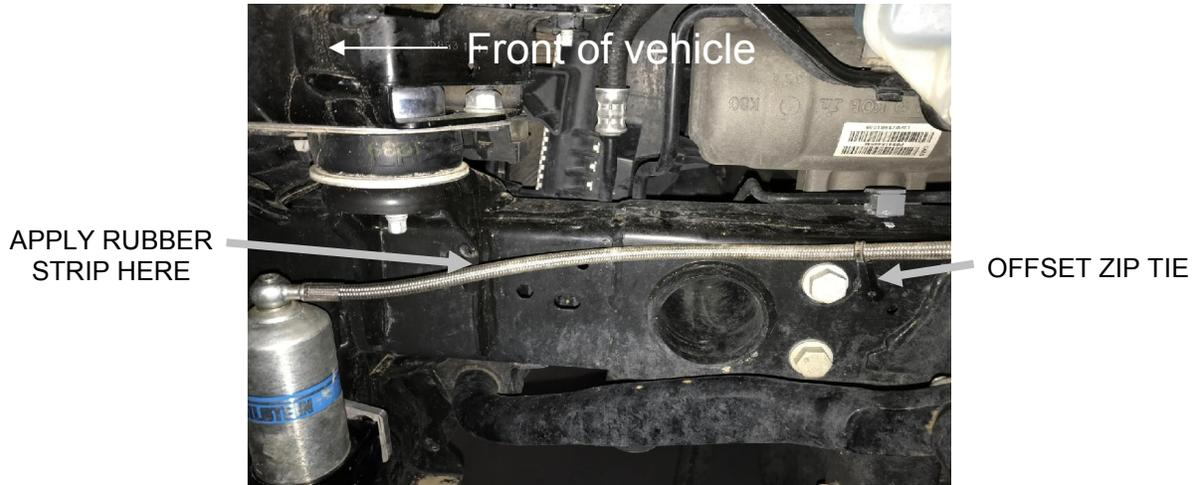

Figure 11 – Driver side
- P. For the Driver side, route the hose as shown in Figure 11. Use the offset zip tie in the hole shown. Apply the rubber strip where shown.